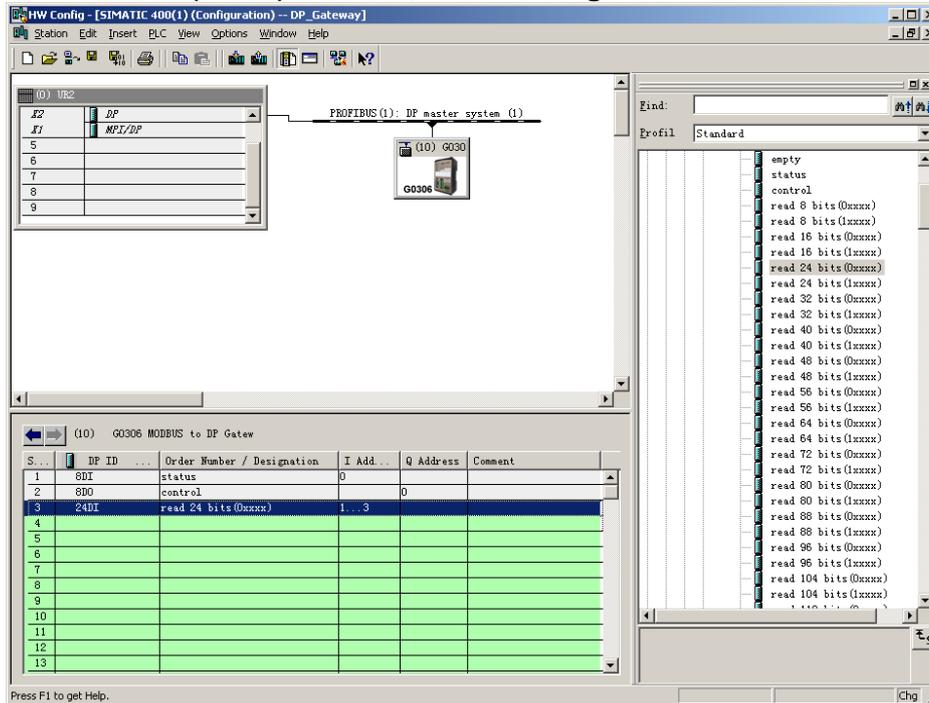

Figure 16 Add“read 24 bits(0xxxx)”Module
**a) Add “read 24 bits(0xxxx)” module, shown as Figure 16:**